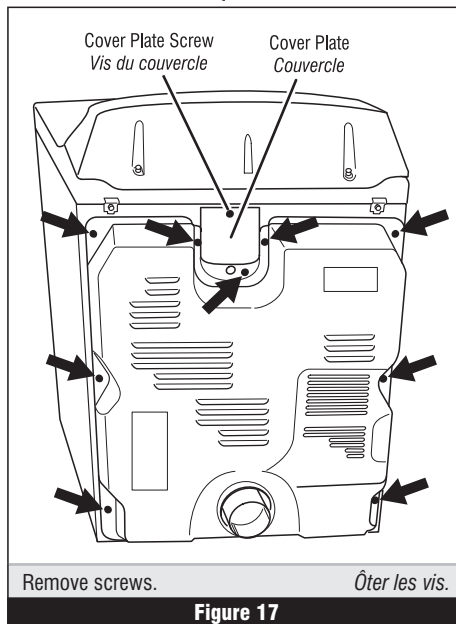

Figure 17
2. Remove the cover plate screw and cover plate. See figure 17.
2. Ôter la vis du couvercle et le couvercle. Voir figure 17.